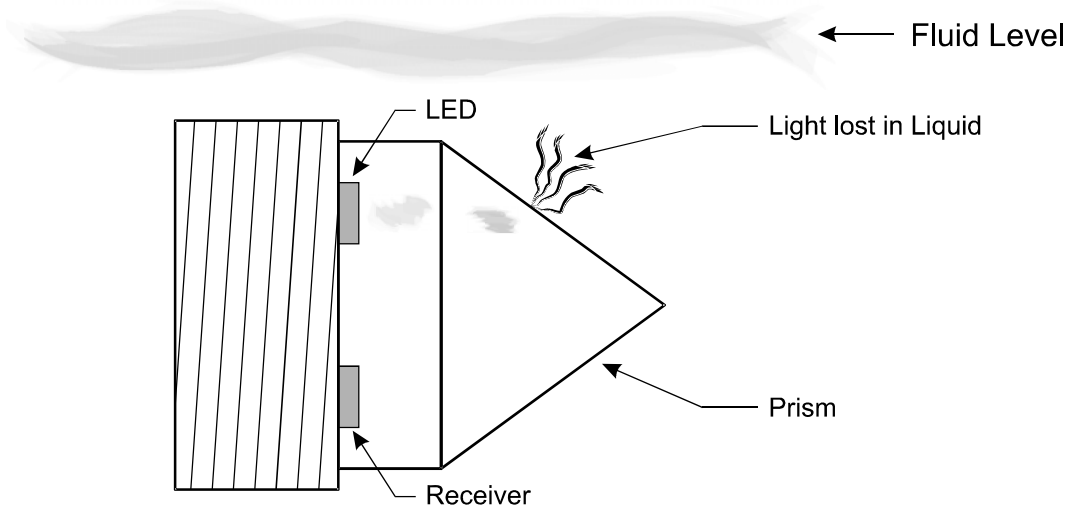

Figure 2
- When the oil level is above the prism, (See Fig. 2.) light from the LED is lost in the liquid. Interrupting the beam to the receiver signals the control circuit that oil is detected, allowing the compressor to run.